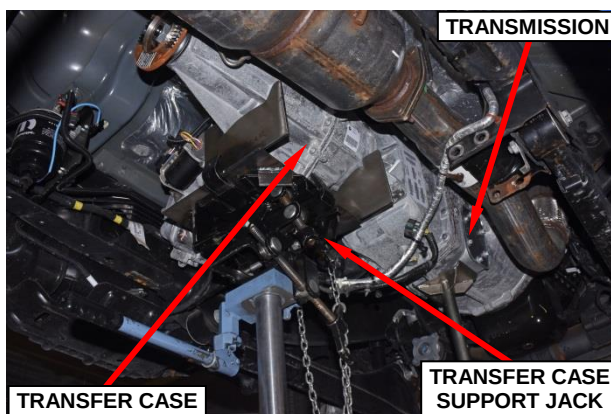

Figure 15 – Support Transfer Case
20. Support the transfer case with a transmission jack and secure the transfer case to the transmission jack with straps or chains (Figure 15).
24. Lift the transfer case into position and place the transfer case against the back of the transmission (Figure 15).